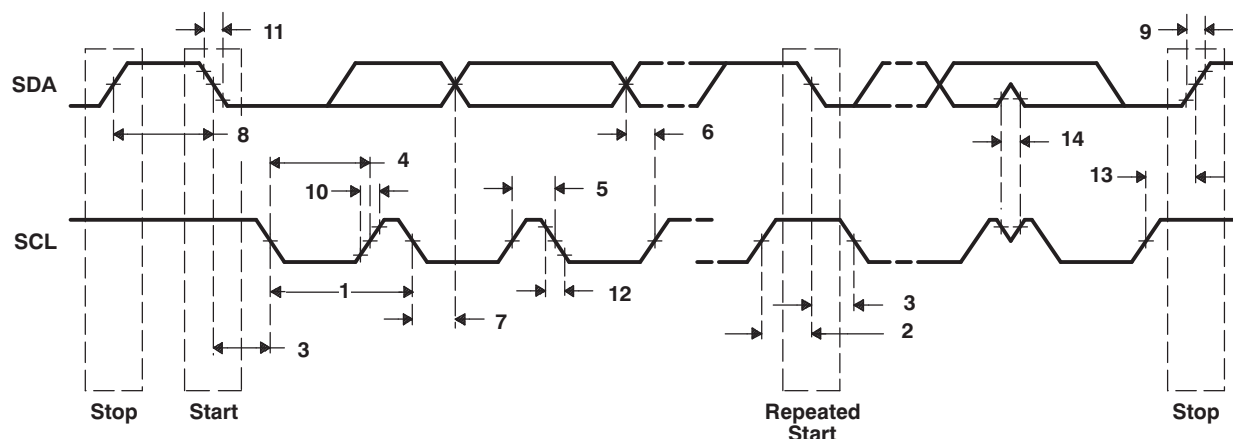

**Figure 5-39. I2C Receive Timings**
**Table 5-33. Timing Requirements for I2C Timings(1) (see Figure 5-39)**